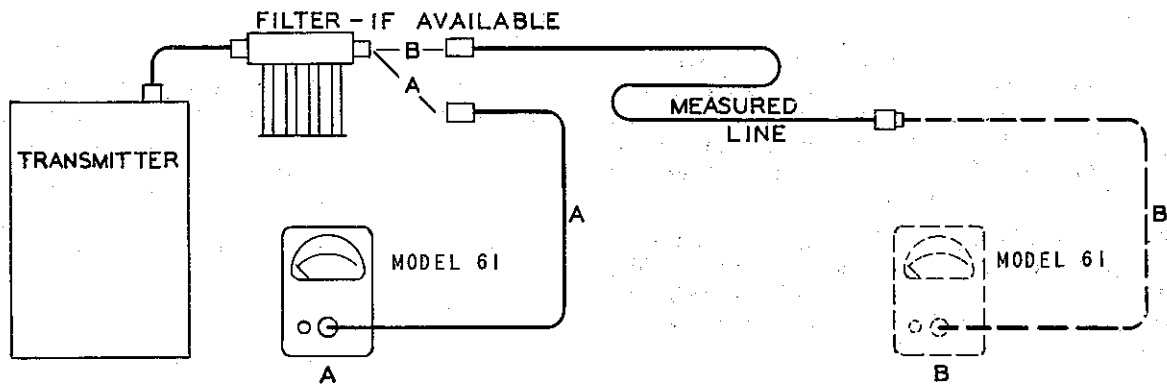
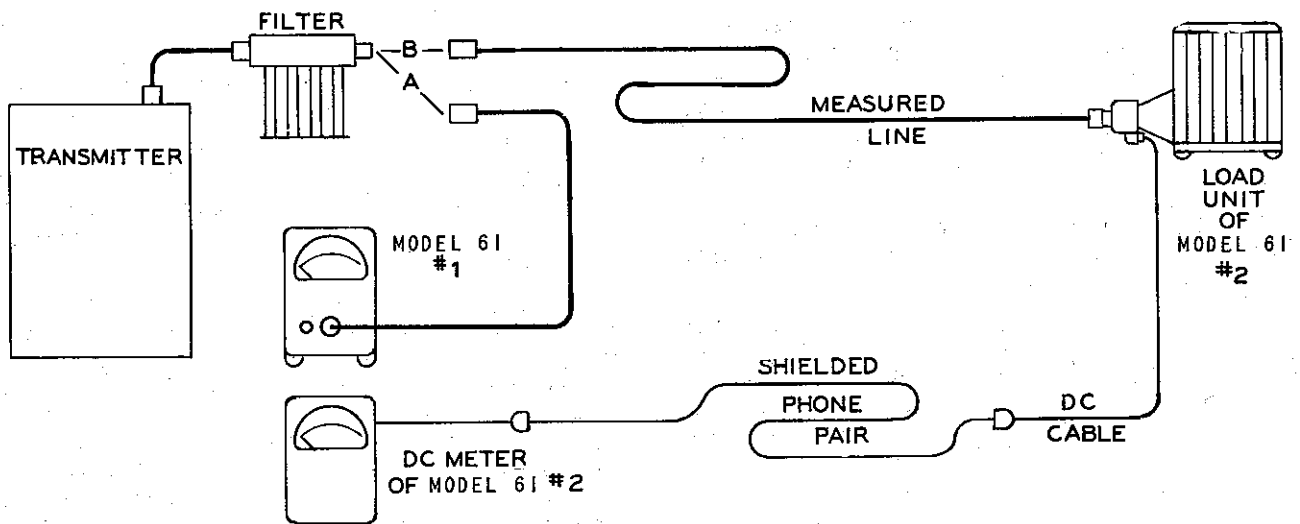

Fig. 4-2. Line Loss Measurement — Block Diagram
Fig. 4-3. Line Loss Measurement — Remote Use of D-C Meter — Block Diagram
b. TEST PROCEDURE (See Fig. 4-2 and 4-3)
(1) Connect the wattmeter to the transmitter ("A" connection of Fig. 4-2 and 4-3). Read output power and tune final stages of transmitter for maximum power output "P1".
(2) Connect line to be measured to transmitter and connect wattmeter to far end of line ("B" connection of
Fig. 4-2 and 4-3). Read power "P2" if the transmitter meters do not indicate a significant change in loading. Good lines terminated by the wattmeter should show little change in transmitter loading from that with wattmeter alone. Where significant changes occur, the voltage standing wave ratio of the line is high and attenuation measurements by this method should be disregarded. Cause of high VSWR should be investigated.
(1) When both ends of measured line terminate in the transmitter room, one wattmeter measurements are convenient (See Fig. 4-2).
(2) A dual set-up with wattmeters and personnel at each end of the line may be used where the far end of the line to be measured is remote, especially when a number of frequencies or parallel lines are to be checked. With readings to be taken at both ends, a telephone connection serving as an order wire will save time.
(3) Fig. 4-3 shows one way of carrying out line measurements from the transmitter room only, when far end of line is remote.
(4) Another way, when two or more rf lines run parallel between measurement points, is to join two lines with a patch cord at the remote end, then measure the loop back to the transmitter room. For identical lines, the loss of one is half the loop loss, or the loss of one good line can be otherwise determined and subtracted from the loop loss.